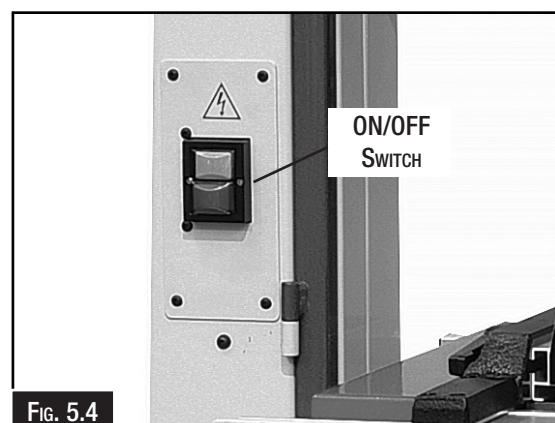

Fig. 5.4
**ON/OFF Switch:** Starts and stops the blade motor. (Fig. 5.4) (240V Only)